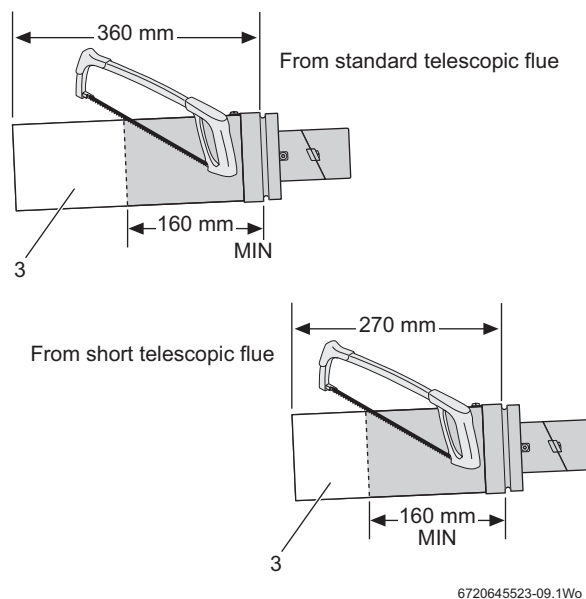

Fig. 13 Reducing the flue further
- ▶ Mark the length required for the terminal as shown in figure 13 (min. 160mm) and cut square, taking care not to damage the tubes.